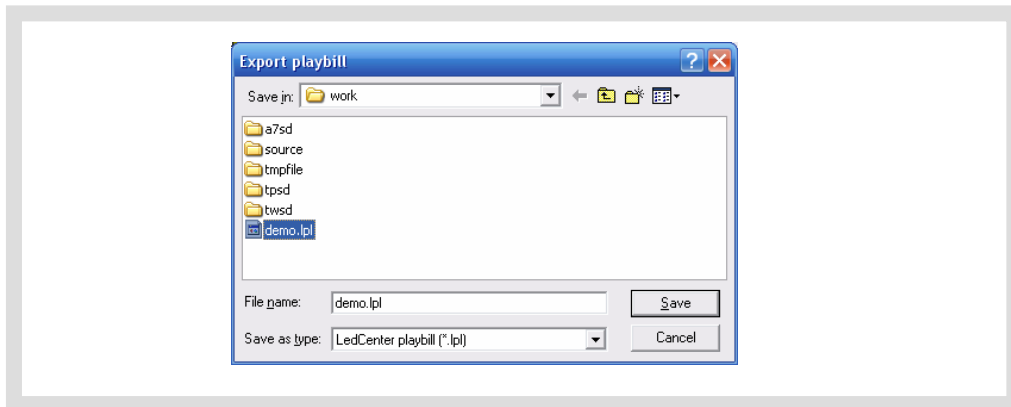

Figure32 Dialog box of export playbill
- 2) Select export position in the dialog box “Export to playbill” (as shown in Figure32) and enter the export file name. Click “Save”. The playbill file of current panel will be stored